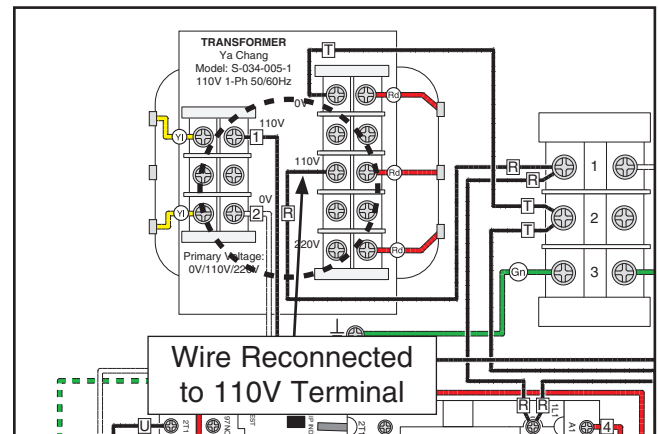

Figure 15. Power transformer wire relocated from 220V to 110V.
5. Open the electrical cabinet and remove the wire attached to the 220V terminal on the power transformer in the electrical panel, and connect it to the 110V terminal, as shown in **Figure 15**.